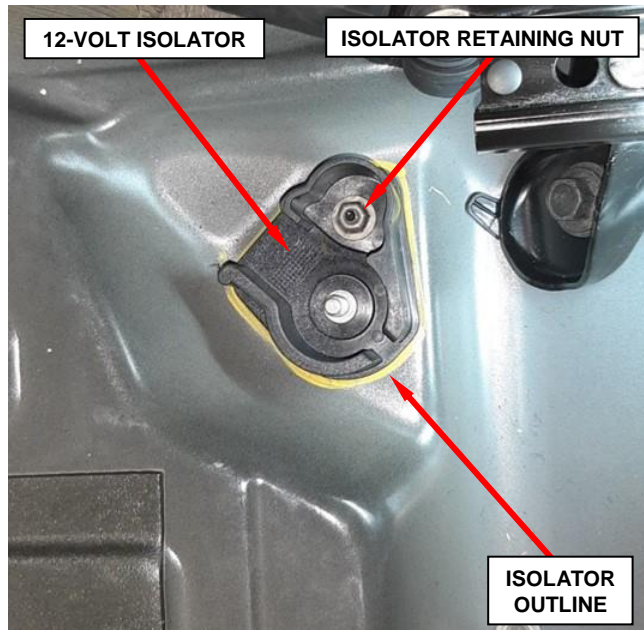

Figure 48 – 12-Volt Isolator
1. Draw an easily visible outline around the 12-volt isolator to be used as a location reference during reassembly (Figure 48).
2. Remove the 12-volt isolator retaining nut then remove the isolator (Figure 48).
11. Using the isolator outline drawn earlier on the floor pan, **VERY CAREFULLY** accurately align and seat in place the 12-volt isolator (Figure 48).
12. Install the retaining nut to the 12-volt isolator and tighten the nut to 5 N·m (44 in. lbs.) (Figure 48).